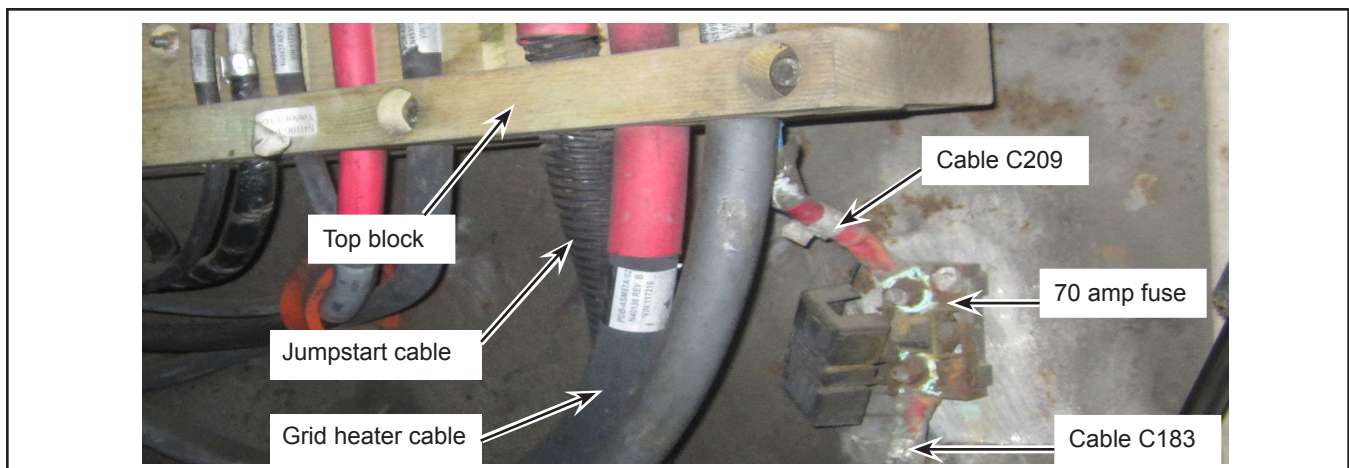

Figure 2 - Existing PDB Connections
- 1.3. Remove the top blocks located on the battery compartment wall to the right of the batteries (see Figure 2). Retain the hardware.
- 1.4. Disconnect the power cables from the first and second stud on the power distribution box. See Figure 2.
- 1.5. Remove and discard the 70 amp fuse, the fuse block and the power cable 61-C209. Cut cable 61-C183 terminal after disconnection. See Figure 2.